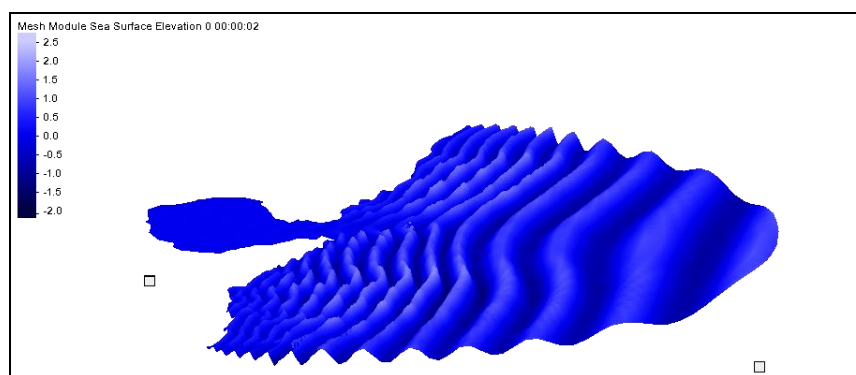

Figure 3 Functional surface showing waves
19. Using the **Rotate**  tool, rotate the mesh so it looks like Figure 3.